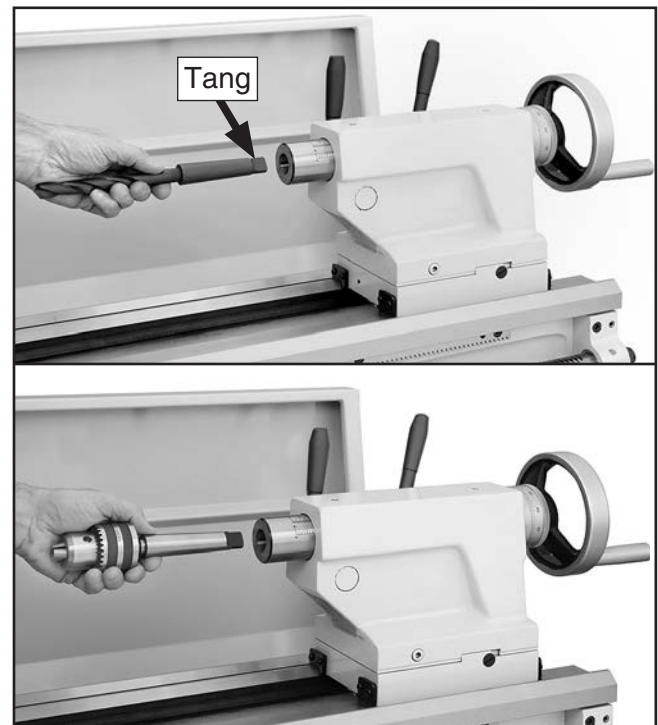

Figure 35. Example photos of inserting MT#3 tools with tangs into a typical tailstock.
3. With a firm and quick motion, insert the tool into the quill, as shown in **Figure 35** on **Page 32**. Check to see if it is firmly seated by attempting to twist it—a firmly seated tool will not twist.